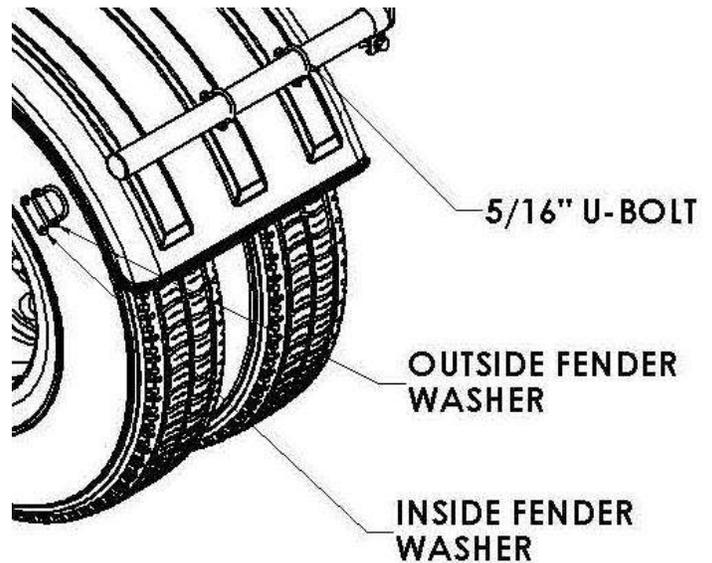

Figure 11
- f. Make sure the fenders are square and aligned (Figure 11). Twists or bows in the fender will fatigue the material over time.